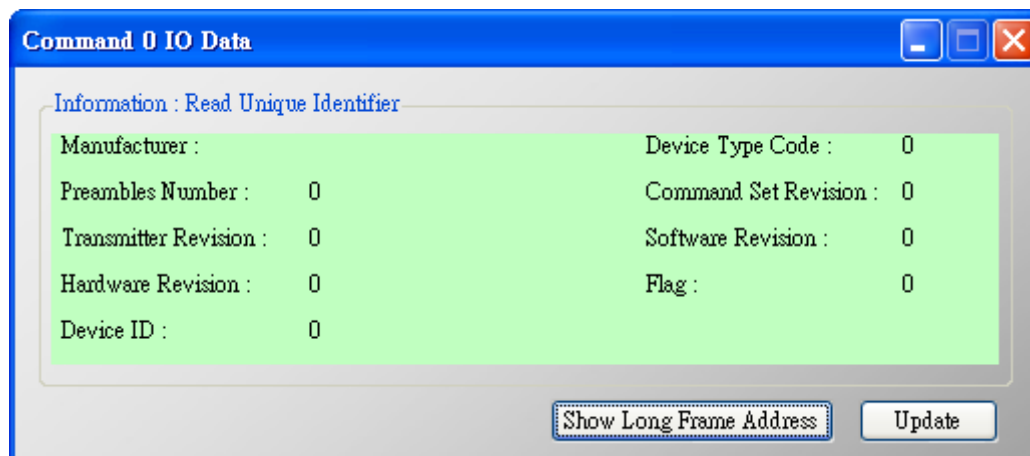

Figure 2-4 The I/O Data screen of the “Default CMD(0)” => NG
(4) The I/O Data of the “Default CMD(0)” is NG like Figure 2-4.